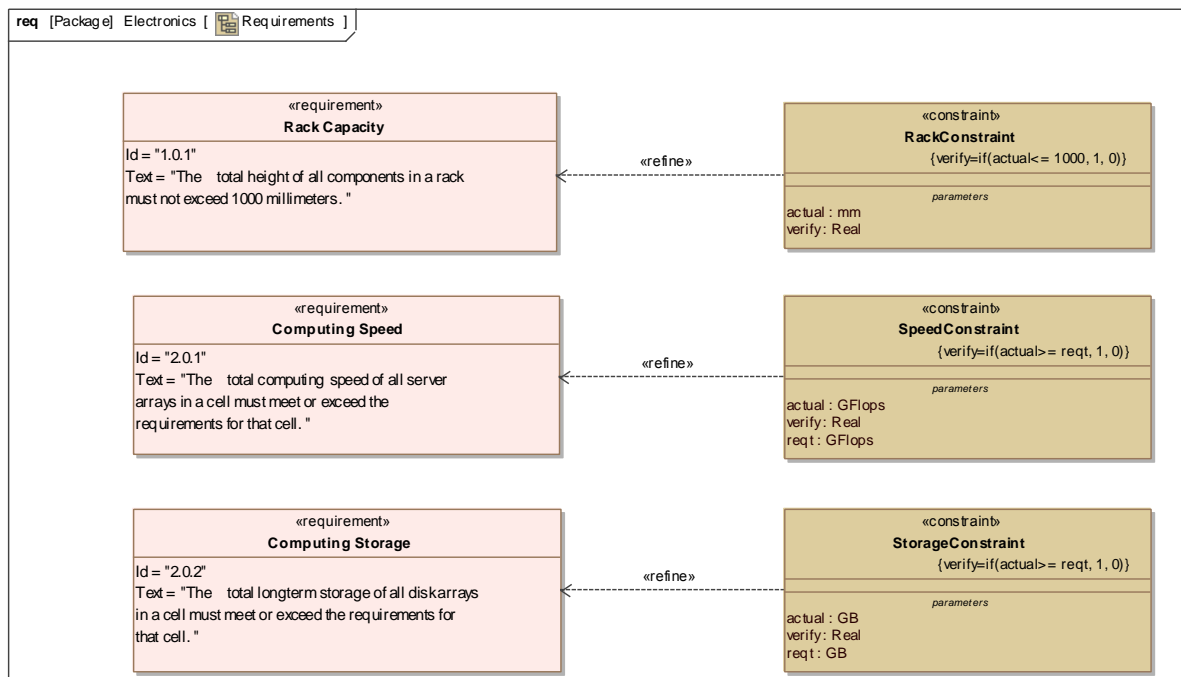

Figure 9.4 Requirements diagram
4. Create a set of Requirements and a corresponding set of Constraint Blocks which mirror the Requirements. See the Requirements diagram in Figure 9.4 for the contents. To review creating Requirements and Requirements Diagrams, see the Satellite tutorial, Section 6. Note that the constraint parameters have specific ValueTypes.